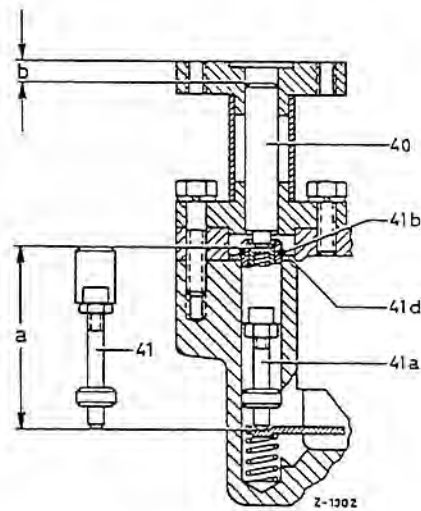

Fig. 00-16/23
1. Remove the inlet air thermostat (1) together with the intermediate flange and the pin (40) (Fig. 00-16/22).
2. Take out the guide bolt (41) and measure the distance "a" (Fig. 00-16/22 and 23). Then adjust the spring-loaded guide bolt (41 a) to a length exactly corresponding to this distance, making the measurement between the two contact surfaces. To do this, loosen the lock nut and turn the head part until the distance "a" is obtained. Tighten the lock nut and check the distance "a" again.
3. Check to make sure that the stop screw (62) is in its normal position (anti-clockwise against the stop) (Fig. 00-16/22).
Then measure the distance "b" (On the first 90 models of the R 3 pumps, include the thickness of the insulating flange in the measurement). Deduct 6.5 mm from distance measured. The difference then corresponds to the thickness of the shims (41 d) to be installed below the snap ring (41 b) of the spring-loaded guide bolt (Fig. 00-16/23).